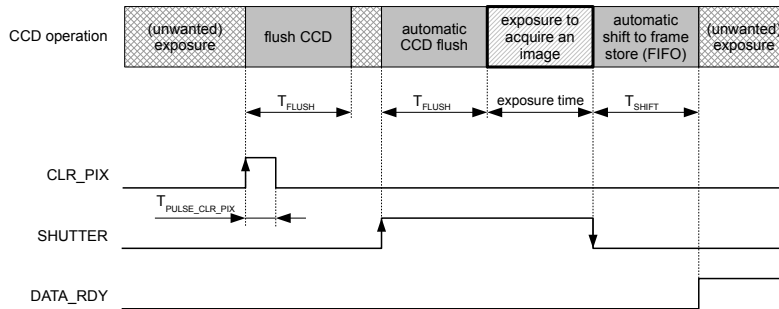
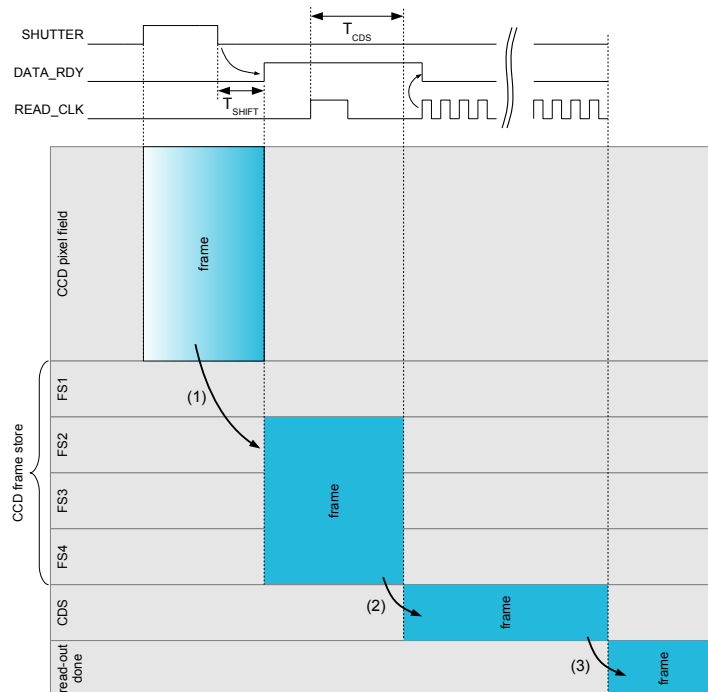
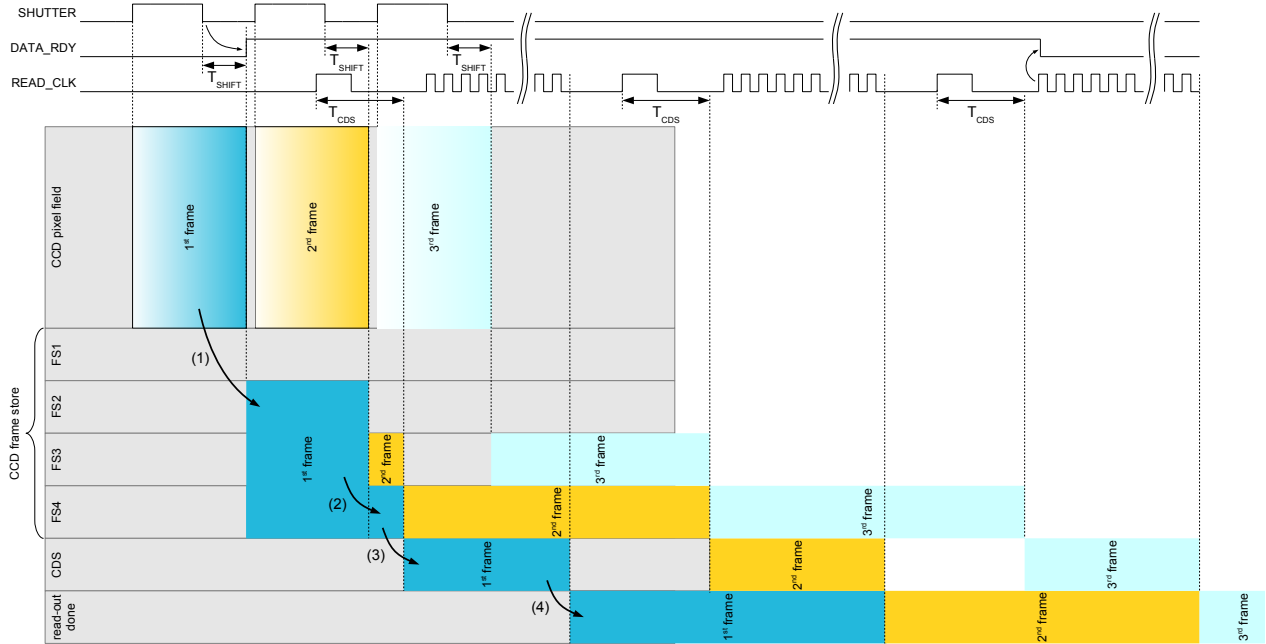
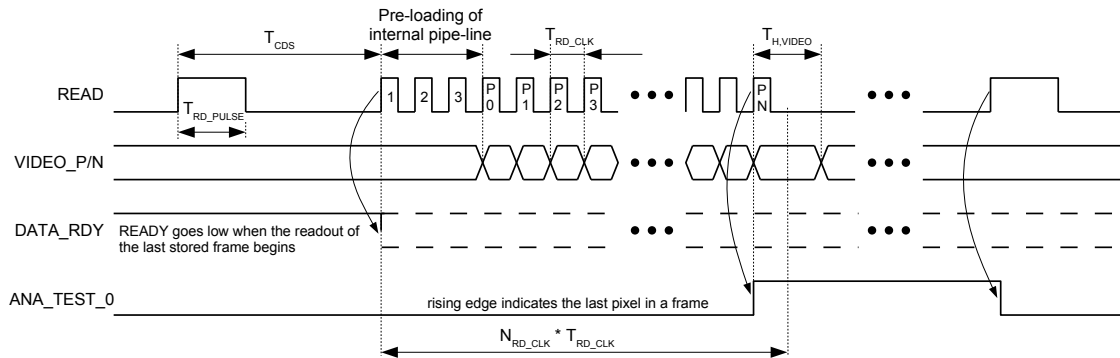

Figure 9: Image acquisition timing
Figure 10: Example of single-frame acquisition and read-out
Figure 11: Multi-frame acquisition and read-out
Figure 12: Image readout timing of one frame
The acquisition of a frame is controlled by a pulse on the SHUTTER pin (see Figure 9). The rising edge triggers the internal flush operation to erase the CCD from any unwanted electrons prior to the exposure. The exposure starts automatically after the flush operation is completed. The CCD collects electrons thereafter as long as the SHUTTER pin is high. Upon the falling edge of SHUTTER, the charge collected in the CCD pixel field is shifted to the CCD frame store which is an area which is not photo-sensitive (see (1) in Figure 10). As soon as the frame is ready for read-out, the signal DATA\_RDY goes high. The image is ready to be readout as described in section 5.4
Up to 4 images can be acquired and stored in the frame store in a fast sequence without intermediate read-out. The frame store is organized in 4 frame store elements (FS1-FS4), thereby each frame store element can store one frame/image. The first captured image initially occupies 3 frame store elements as for a single-frame acquisition (see section 5.2 and Figure 10). epc90x automatically detects a multi-frame acquisition when detecting the second SHUTTER signal without prior read-out. Upon the second shutter, the first image is shifted to a single frame store element (see (2) in Figure 11). The frames are shifted from the pixel field to the frame store as a FIFO: The first captured image is the first one to read out. The read-out is described in more detail in section 5.4. As soon as 4 frames have been captured without prior read-out, at least one read-out has to be issued prior the next shutter in order to make FS1 available again. Excessive shutter pulses are ignored.
The first pulse of a read sequence applied to pin READ is a Read Pulse and must have a duration of  $T_{RD\_PULSE}$ . Upon this Read Pulse, the last frame in the frame store is converted pixel-wise from charge to voltage. This operation is called correlated double-sampling (CDS) and lasts for the time  $T_{CDS}$ . Following the Read Pulse, respecting a delay of at least  $T_{CDS}$ , Read Clock pulses are applied to the READ pin in order to transfer the pixel voltages to the VIDEO\_P/N pins. The first 3 Read Clock pulses, designated with 1, 2 and 3 in Figure 12, are used to pre-load the pipeline. Thus the first 3 pixel voltage values on VIDEO\_P/N can be ignored. The subsequent Read Clock pulses, designated with P0 ... PN in Figure 12, transfer the pixel voltage values through the video amplifier to the VIDEO\_P/N pins.
The signal DATA\_RDY remains high as long as there is at least one frame stored in the CCD frame store. If no more frames are stored except the one that is currently read out, the signal DATA\_RDY goes to low state on the first positive Read Clock edge (see Figure 12). If no frame is stored, the chip does nothing upon a Read Pulse.
- The following time periods shall never overlap in any multi frame acquisition or by parallel reading during exposure:  $T_{FLUSH}$  with  $T_{CDS}$  and  $T_{SHIFT}$  with  $T_{CDS}$ . Refer for these signal to Figure 9 and Figure 12.